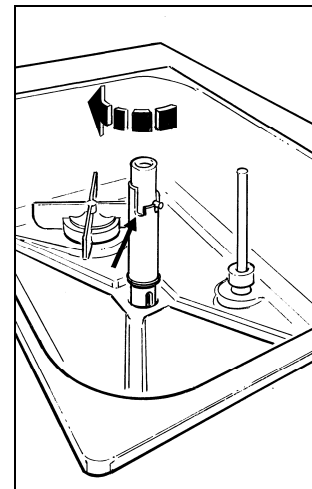

Fig. 7
- Position the air regulation pipe and adjust it, lifting and rotating the upper movable part in a clockwise direction, to the closed position on the lower notch indicated by the arrow (fig. 7).